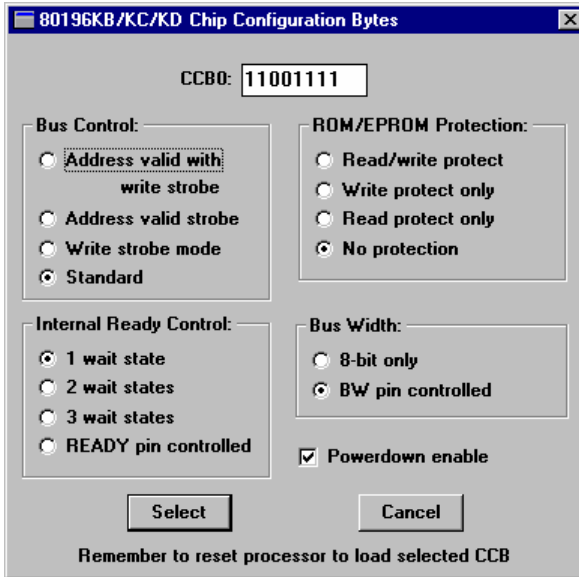

FIGURE 6 Configuring the microprocessor.
9. Adjust the settings in the next dialog box that appears (Figure 6) and press Select. If in doubt, leave them unchanged by pressing the Cancel button.